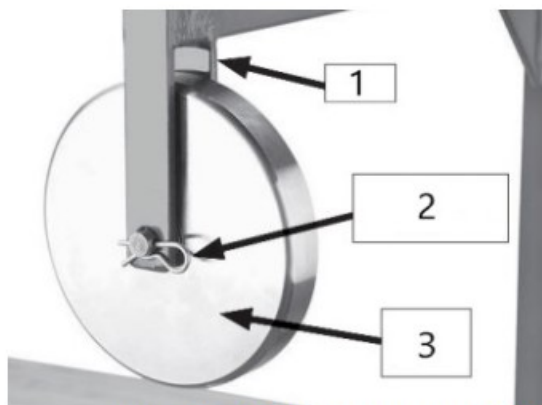

Fig. 8 – Installed upper cylinder
5. Position the upper cylinder between the arms of the frame and put the upper clevis pin through the arm and cylinder, then secure the pin with the splint (Fig. 8).